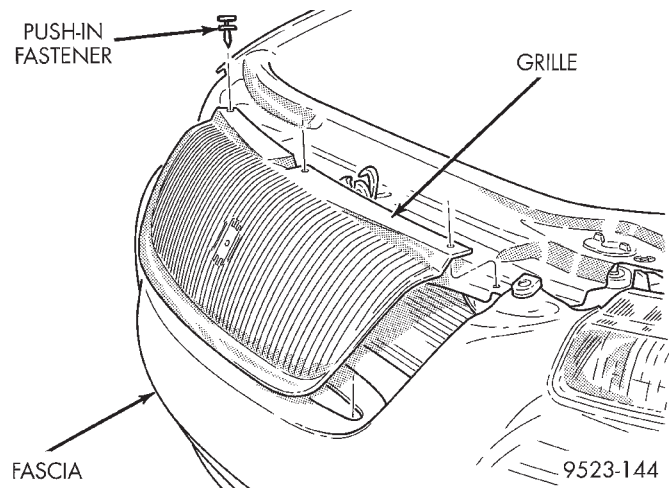

Fig. 17 Grille
- (1) Remove front bumper fascia, refer to Group 13, Bumpers and Frame for proper procedures.
- (2) Using a suitable drill, remove rivets holding grille to front fascia.
- (3) Remove grille from fascia (Fig. 17).